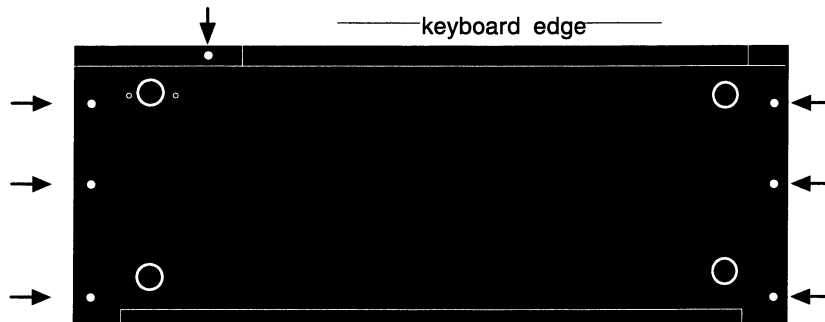

Figure 16 - MR-61 Screw Locations
3. Remove the seven (7) screws from the base of the MR-61 as shown in figure 16: